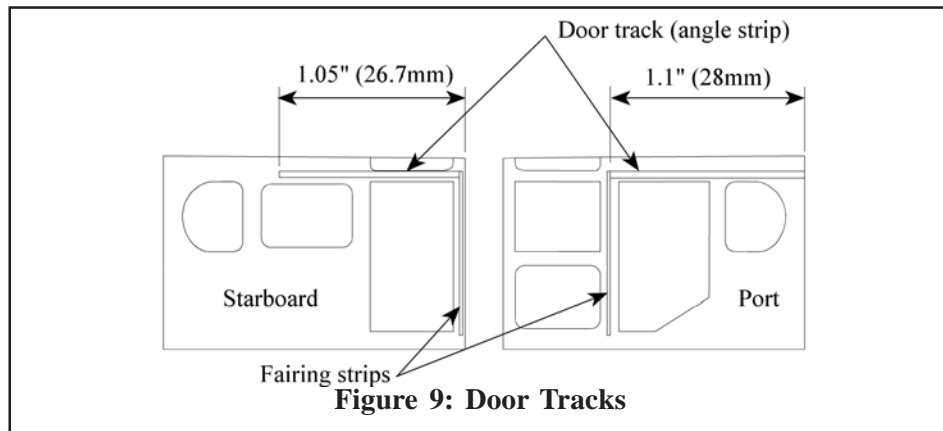

**Figure 7: Nose Gear**
15. **(Decision required)** The S51 nose gear can pivot so it need not be glued on lined up fore and aft. The square link on the bottom of the nose gear strut is the front. Glue the strut to the spot indicated on the bottom of the forward fuselage. The nose gear trailing arm assembly can then be glued to the bottom of the nose gear mount; the top of the link attaches to front of the nose gear mount (see Figure 7). While the arm assembly is designed so the nose wheel can be glued in place, it would probably be stronger to make an axle from steel wire, passing through the arms and the wheel. Leave this step to the end.